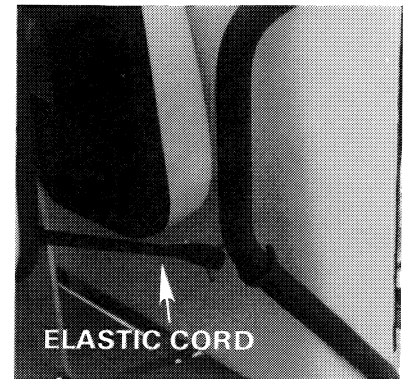

Figure 27
There is an enclosed storage compartment underneath the rear seat with two (2) cu. ft. of storage area. The rear seat can be lifted and fastened in place with the elastic cord to give access to the storage compartment (Figure 27).
An optional on-board charger is available for the Tourall Electric; it should be plugged into a properly grounded nominal 115 Volt, 60 Hertz outlet. The AC line to which the charger is connected must be capable of supplying 10 amperes to each charger. The rear seat should be held up with the rubber cord while charging (Figure 27).